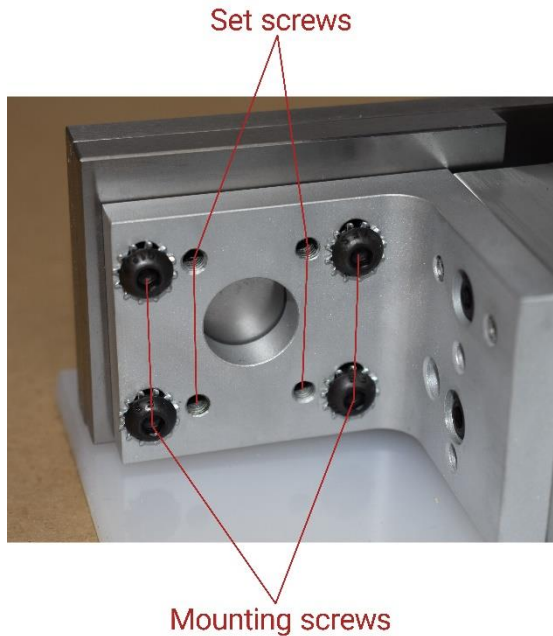

Figure 1
1. With the 4mm hex key, slightly loosen the four mounting screws holding the smaller jaw to the carriage bracket (figure 1).